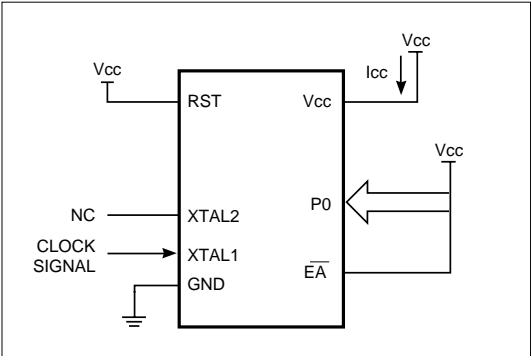

Figure 24. Active Mode
1. See Figures 24,25,26, and 27 for Icc test conditions.